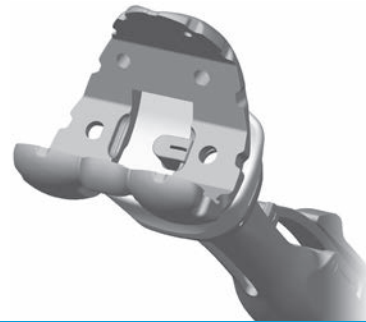

Fig. 76
- Remove any posterior osteophytes or overhanging bone on the femur to facilitate maximum knee flexion. Attach the Femoral Inserter/Extractor to the correct PS Femoral Provisional by inserting the hook on the Femoral Inserter/Extractor arm into the lateral notch in the PS Femoral Provisional and close the handle on the Femoral Inserter/Extractor to secure the PS Femoral Provisional (Fig. 76).